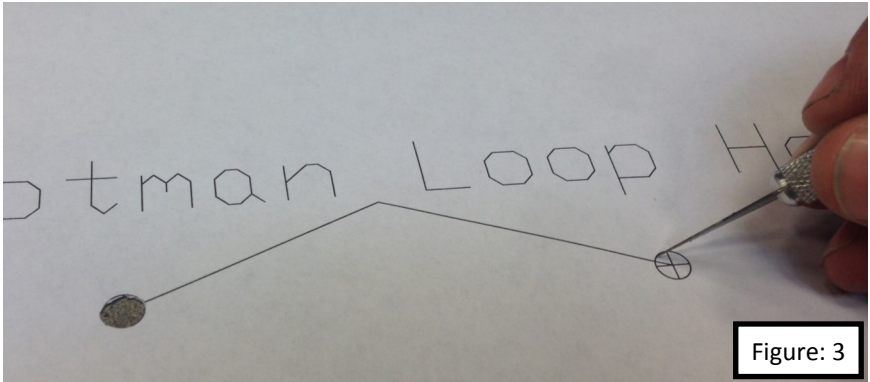

Figure: 3
4. Lay the Template on a flat surface and cut out the Footman loop holes and the Windshield Bumper holes. Figure: 3 & 4